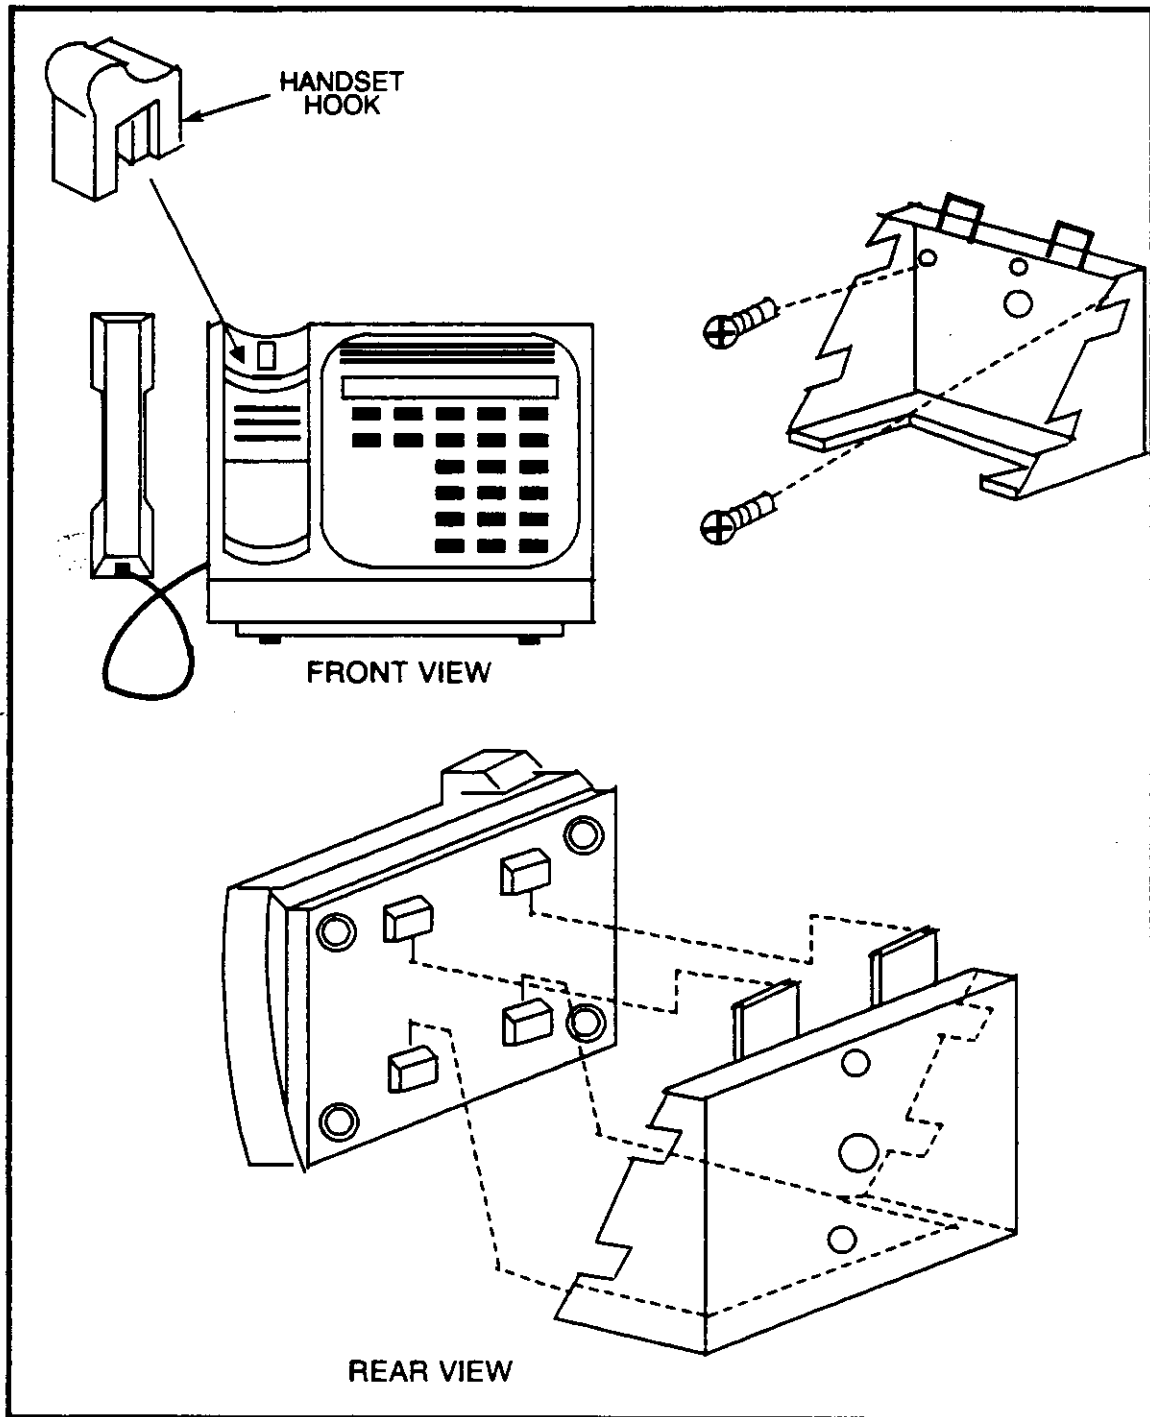

Figure 4.8 Proprietary EKT Telephone Wall Mounting
- (a) Attach the wall-mounted metal base to the wall. There are two screw locations as shown in Figure 4.8.
- (b) Place the telephone set on the wall-mounted metal base as shown in Figure 4.8.
- (c) Install the handset hook as shown in Figure 4.8.